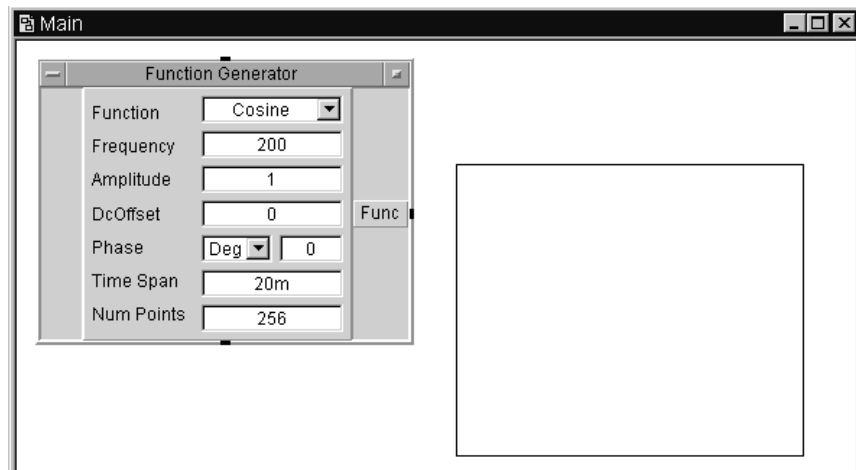

Figure 9 Moving an Object
- 2 Move the outline to the new location while continuing to hold the mouse button down, as shown in Figure 9. Release the mouse button, and the object moves to the new location.